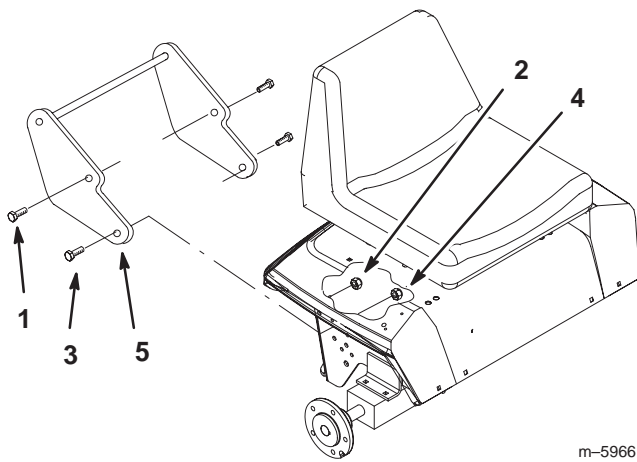

Figure 3
3. Install the quick hitch to the tractor using 2 carriage bolts (3/8 x 1 in.) in the rear holes and secure with 2 locknuts (3/8 in.) (Fig. 3).
4. Install 2 carriage bolts (1/2 x 1-1/4 in.) in the front holes. Secure bolts with 2 locknuts (1/2 in.) (Fig. 3).